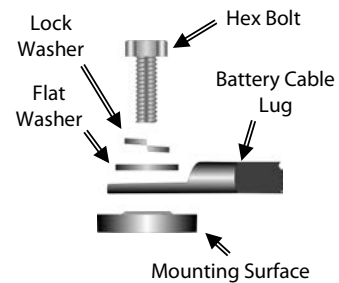

Figure 5 Battery Interconnect Bars and Hardware
5. Attach the interconnect bars to place the batteries in series. Batteries should be connected in series as appropriate to meet the system voltage requirements. Follow all instructions in the battery manual and use the recommended torque values. Install hardware in the order shown in Figure 5. Do not install hardware in a different order than shown unless specified by the battery manual or instructions.